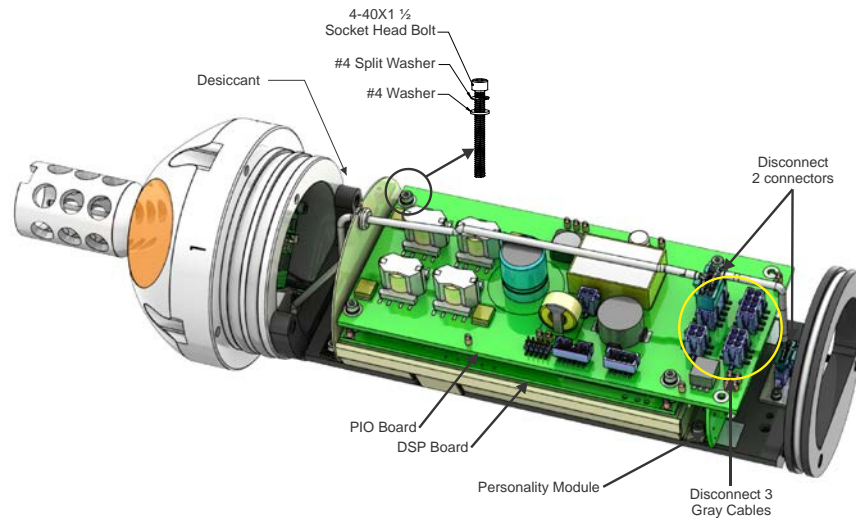
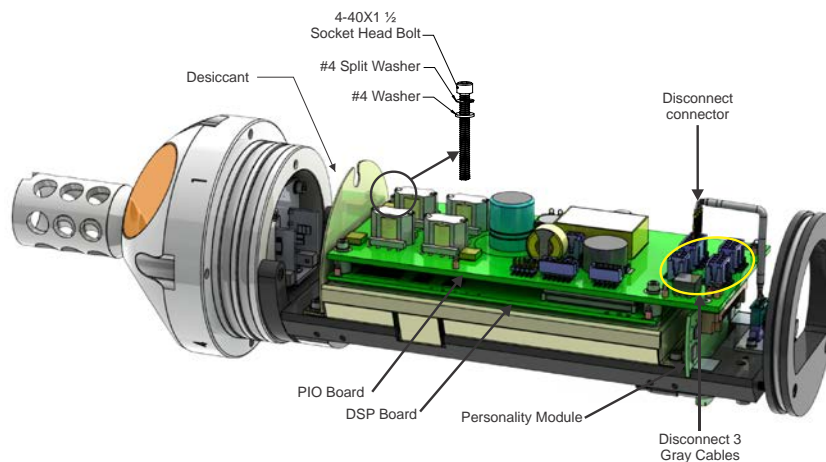

Figure 40. DVS Phase I Electronic Chassis (750 meter system shown)
Figure 41. DVS Phase II Electronic Chassis (750 meter system shown)
4. Disconnect the two connectors on the light gray cable going across the top of the PIO board as shown in Figure 40. For Phase II DVS systems only disconnect the one connector (see Figure 41). Move the cable to the side.
4. Gently place the board stack on the electronic chassis. Align the personality module with its guiding slot on the base plate (see Figure 41).
8. For DVS I systems, reconnect the connectors on light gray cable going across the top of the PIO board (see Figure 40). Make sure the cable strain relief is on the slot. For DVS II systems, connect the light gray cable connector to the PIO board (see Figure 41).